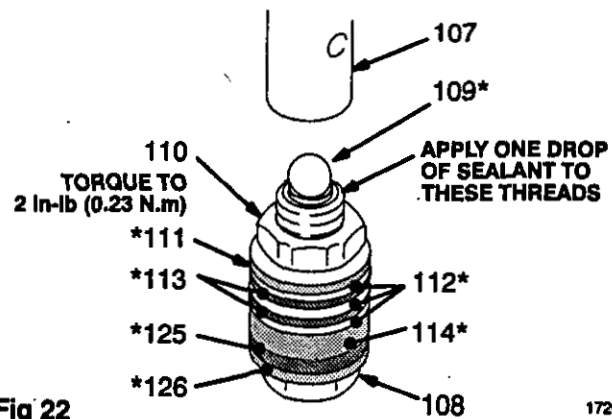

Fig 22
1. Check the outside of the piston rod (107) and the inside of the cylinder (115) for wear. Replace worn parts to ensure a good seal with the new packings.
2. Stack these parts onto the piston valve (108) one at a time: the backup washer (126*) and u-cup (125*), the female gland (114*), alternately three plastic (112*) with two leather packings (113*), and the male gland (111*). See Fig 22.
3. Tighten the nut (110) onto the piston valve (108) to 2 in-lb (0.23 N.m). See Fig 22.
5. Place the ball (109*) on the piston valve (108). See Fig 22.